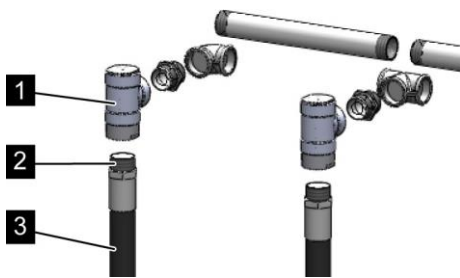

Fig. 58: Mounting the hose
1. ➤ Wrap G2 thread (Fig. 58/2) with a suitable sealant (e.g. Teflon tape).
2. ➤ Screw fasten and carefully align DN40/DN50 (1 1/2" and 2" hose Fig. 58/3) to the nozzle pipeline, the manifold, and the check valve (Fig. 58/1).